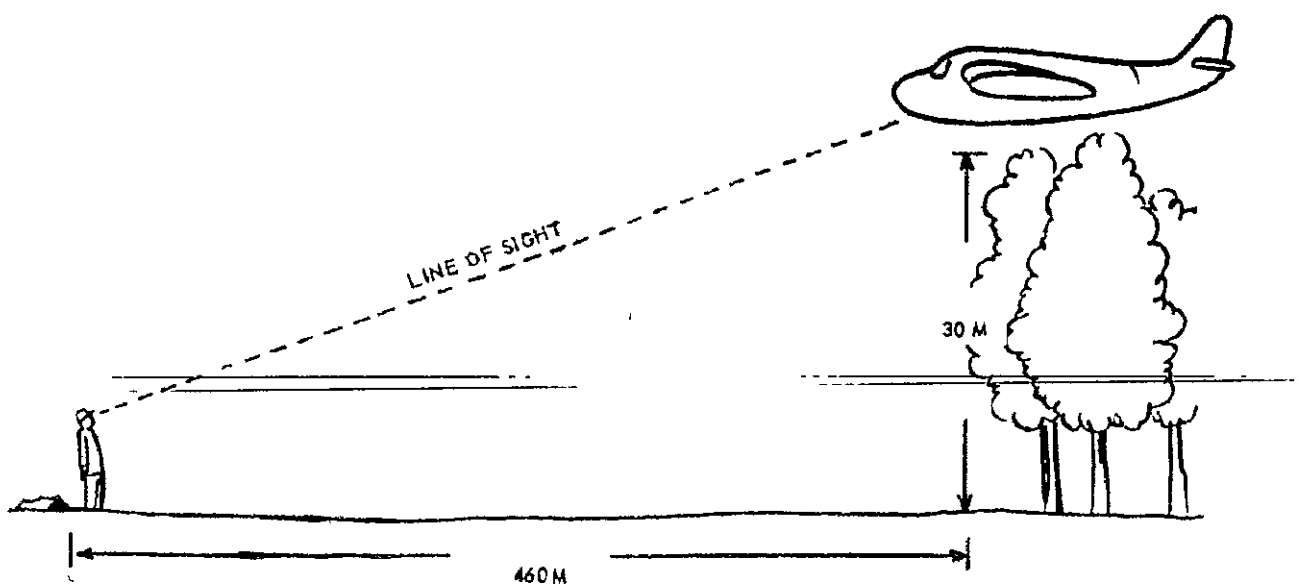

Figure 29. Placement of DZ Markings.
(1) Markings must be clearly visible to the pilot of the approaching aircraft. As a guide, markings must have a clearance of at least 460 meters from a 100-foot obstacle (figure 29).
(2) Additionally, precautions must be taken to ensure that the markings can be seen only from the direction of the aircraft approach. Flashlights may be equipped with simple hoods or shields and aimed toward the flight path. Fires or improvised flares are screened on three sides or placed in pits with sides sloping toward the direction of aircraft approach.
(3) When panels are used for daylight markings of DZ's, they are positioned at an angle of approximately 45° from the horizontal to present the maximum surface toward the approaching aircraft.